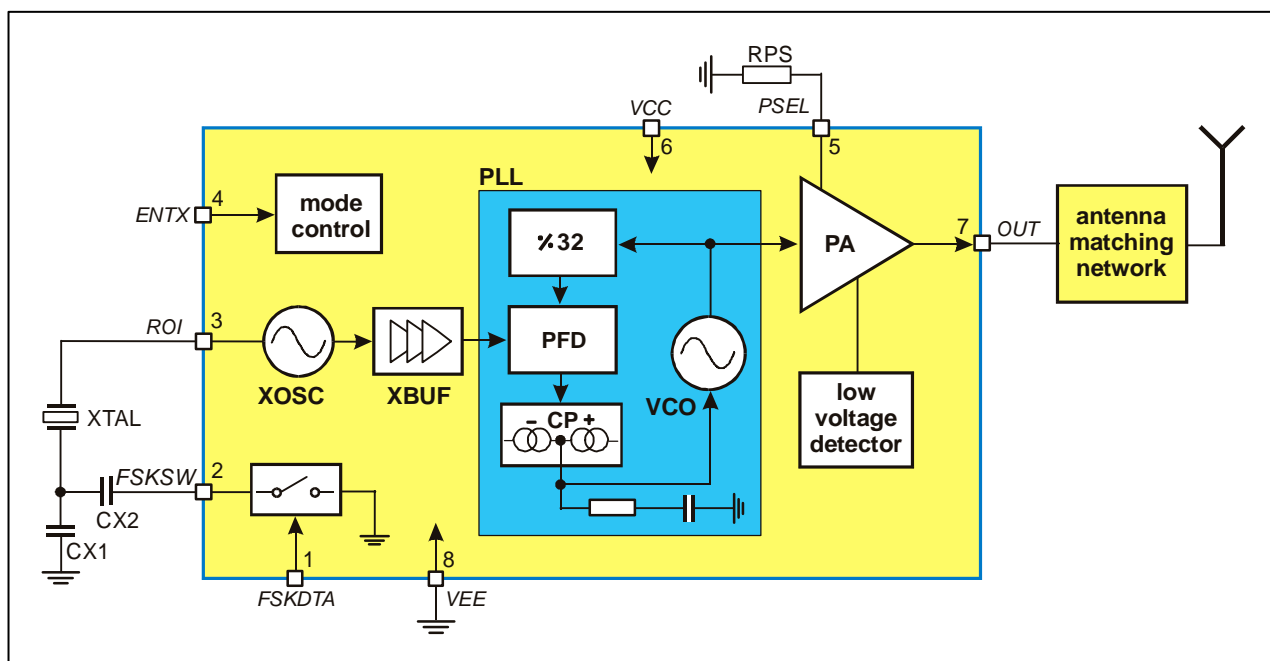

Fig. 1: Block diagram with external components
As depicted in Fig.1, the TH72031 transmitter consists of a fully integrated voltage-controlled oscillator (VCO), a divide-by-32 divider (div32), a phase-frequency detector (PFD) and a charge pump (CP). An internal loop filter determines the dynamic behavior of the PLL and suppresses reference spurious signals. A Colpitts crystal oscillator (XOSC) is used as the reference oscillator of a phase-locked loop (PLL) synthesizer. The VCO's output signal feeds the power amplifier (PA). The RF signal power P_{out} can be adjusted in four steps from $P_{out} = -12$ dBm to $+9.5$ dBm, either by changing the value of resistor RPS or by varying the voltage V_{PS} at pin PSEL. The open-collector output (OUT) can be used either to directly drive a loop antenna or to be matched to a 50Ohm load. Bandgap biasing ensures stable operation of the IC at a power supply range of 1.95 V to 5.5 V.